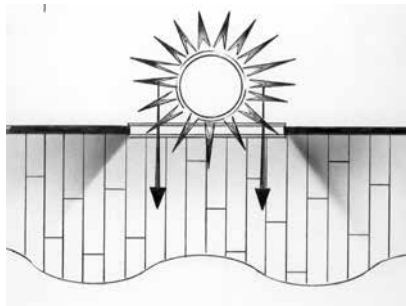

Fig. 2
1. Install parallel to incoming light from any windows or, if lighting is not a concern, parallel to the longest wall in the room (Fig. 2).